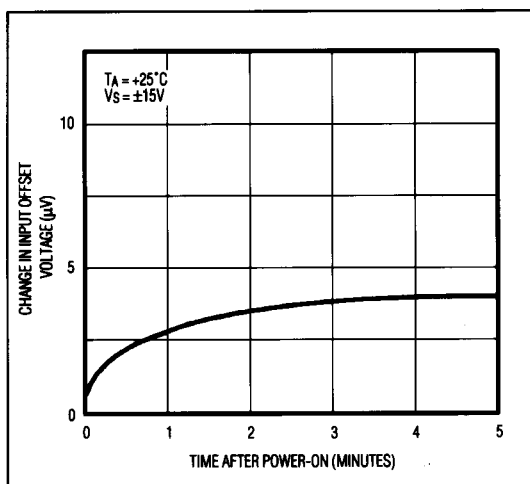

Figure 5. Warm-Up Offset Voltage Drift
1. The device must warm up for at least five minutes. Figure 5 shows how  $V_{OS}$  typically increases  $4\mu V$  with increases in chip temperature after power-up. In the 10sec measurement interval, temperature-induced effects can exceed  $10nV$ .